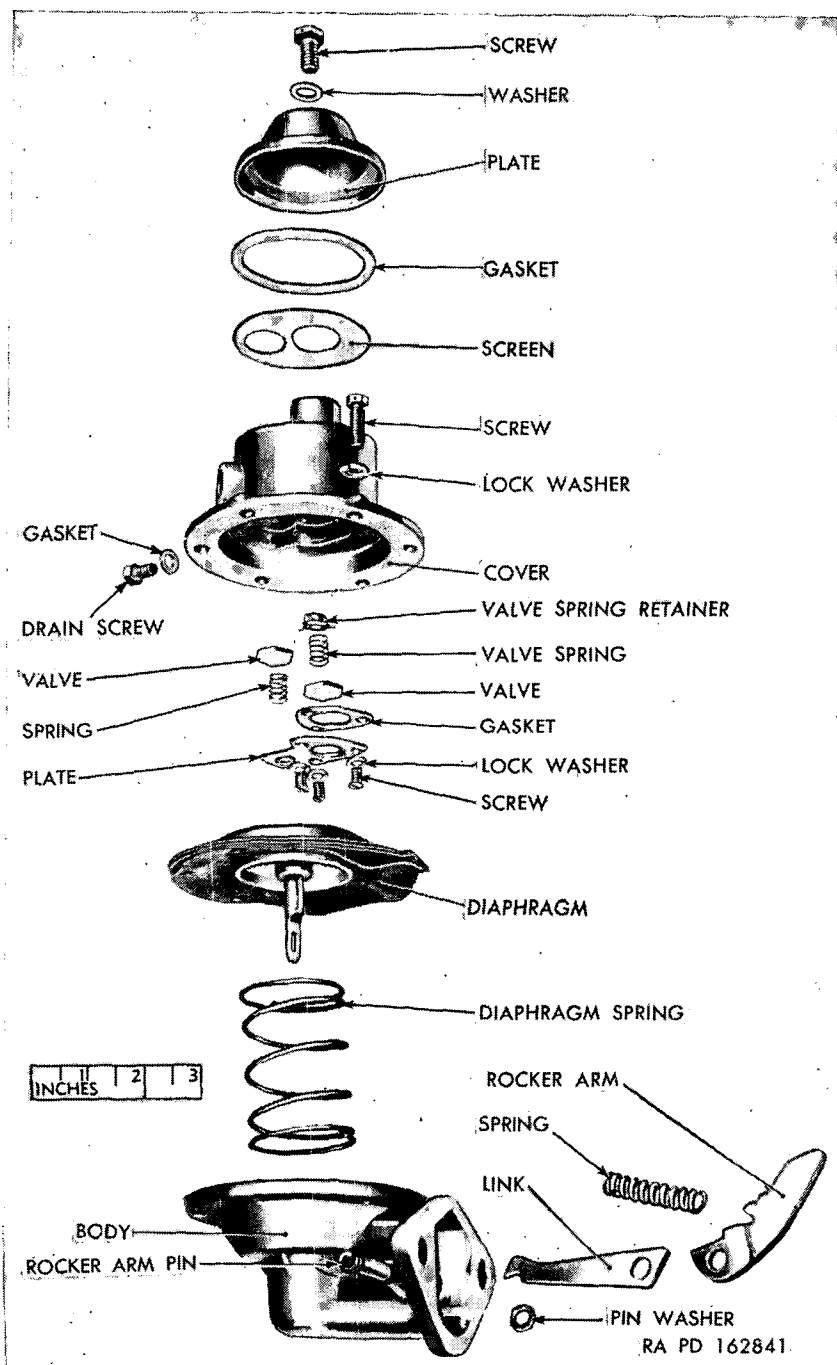

Figure 15. Fuel pump—disassembled (typical series R construction).
- (1) Mark edges of top cover and body (fig. 15) with a file. Mark at heat shield stud, if used. The parts may then be assembled in the same relative positions and heat shield stud properly located.
- (2) Remove cover screws and lock washers. Also remove heat shield stud, if used. Separate cover from body by jarring cover loose with a light plastic hammer.
*a. Assemble Body (fig. 15).*
- (1) Assemble link and rocker arm. Insert rocker arm bushing if used. Place rocker arm and link in body with link hook down. Aline rocker arm pin hole with hole in body and drive in rocker arm pin. Install washer on small end of rocker arm pin and spread end of pin. Install rocker arm spring.
- (2) Soak new diaphragm in clean kerosene. Fuel oil may be used, but do not use shellac or sealing compound. If used, install oil seal spring, upper oil seal retainer, two oil seal washers, and lower retainer on the diaphragm pull rod. Turn the lower oil seal retainer 90 degrees to lock in place. Place diaphragm spring over pull rod well and install diaphragm assembly. Hold pump body upside down and press diaphragm against spring. At the same time, tilt the diaphragm